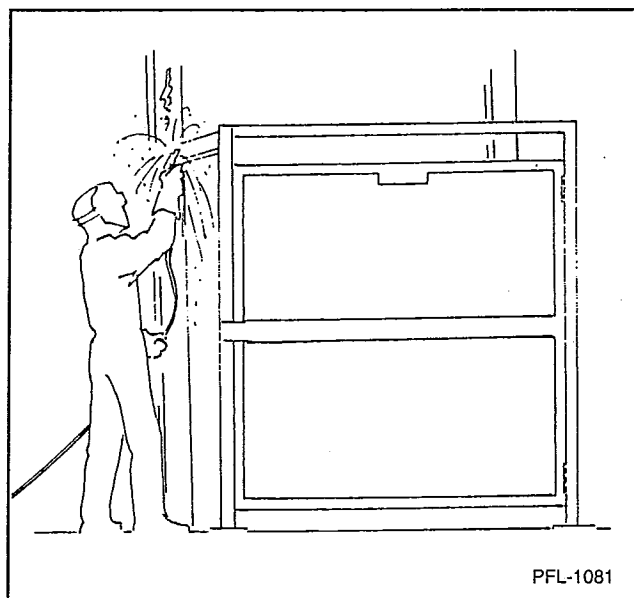

Figure 6
- Weld angle iron header to gate posts. See Figure 6.